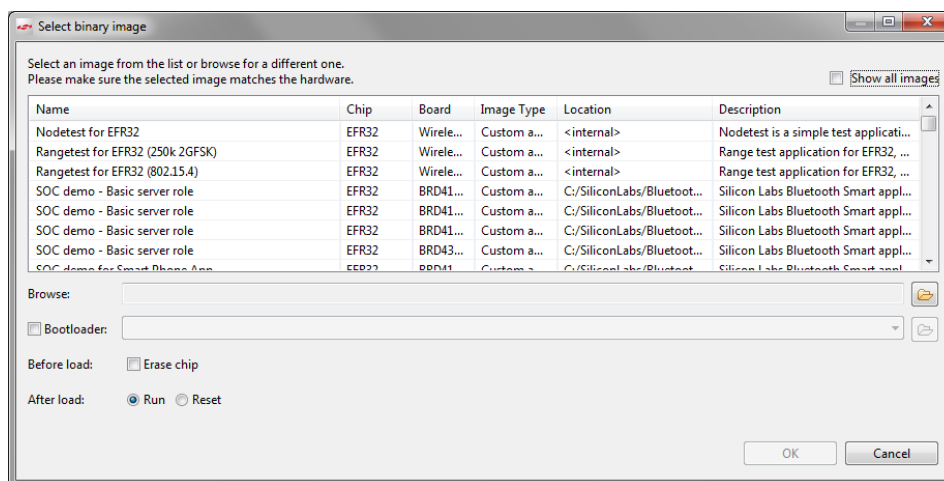

Figure 29. Select Binary Image
4. Right-click on the device in the Adapters view again and select **Flash / Upload**. The Select Binary Image dialog is displayed (example shown in Figure 29).